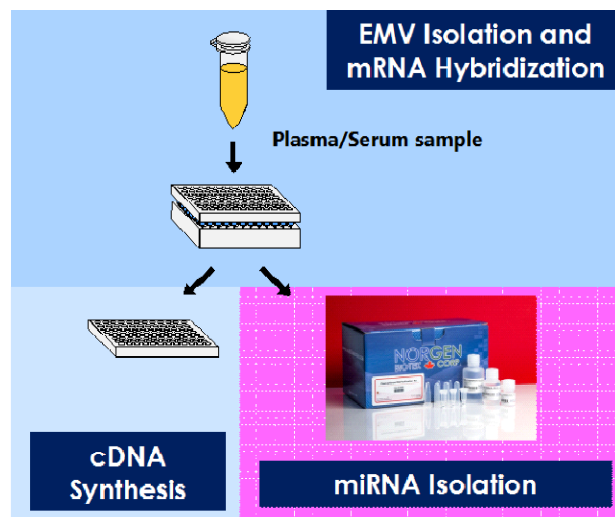

Figure 5. Hitachi/Norgen Workflow for the isolation of exosomal mRNA and miRNA.
2. Norgen's Plasma/Serum RNA Purification Mini Kit can be integrated in Hitachi's ExoComplete™ 96-Well Plate Kit workflow for the purification of plasma exosomal miRNA as represented in **Figure 5**.